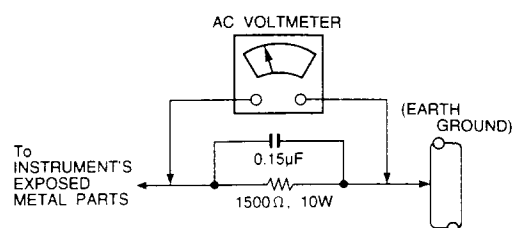

Fig.1
- 5-2 Connect a 1500 ohm, 10 watt resistor, paralleled by a 0.15 μ F capacitor between each exposed metallic part and a good earth ground (as shown in Fig.1).